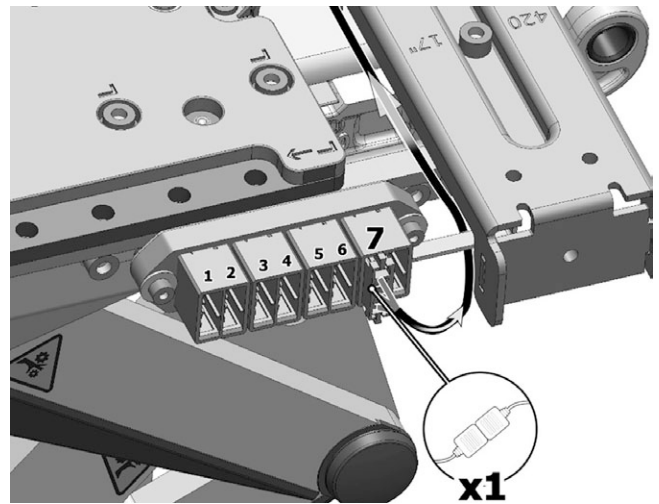

Figure 140. The ICS bus cable is connected to the seventh position of the connector block.
3. The ICS bus cable is connected to the seventh position of the connector block on the right hand side of the seat. See fig. 140.